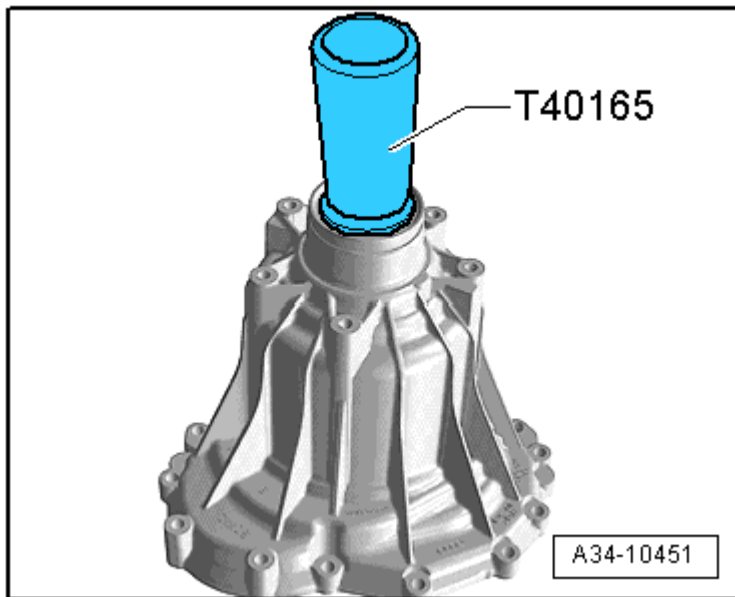

Fig. 52: Installing Seal For Rear Flange Shaft
- Installing, refer to **Fig. 52**